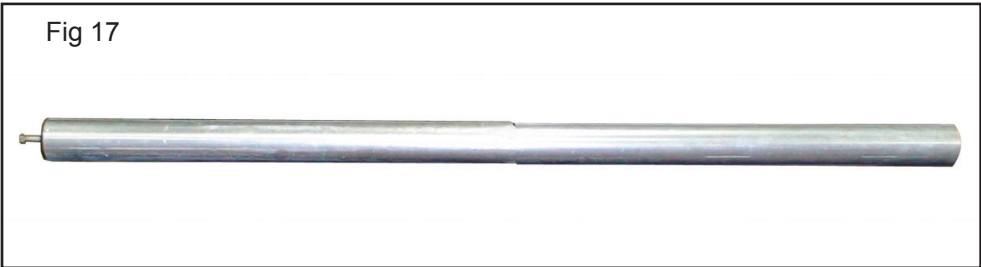

Fig 17
Step 9. Measure the roller tube assembly to make sure the length is the same as the measurement taken from the chart in step 8. (Fig 17) Tap the end of the tube on the floor if necessary to make the tube slide in all the way.